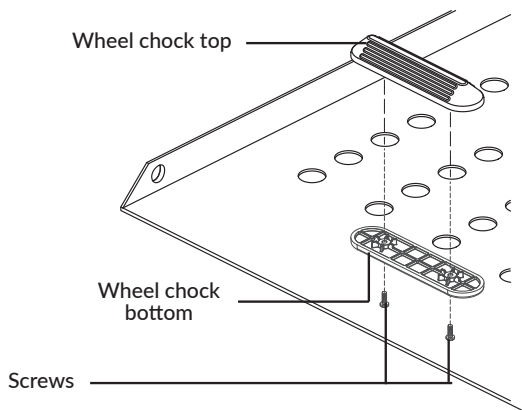

Figure 4-23
6. Position the wheel chock bottom on the underside of the platform, aligning it with the wheel chock top. **See Figure 4-23.**